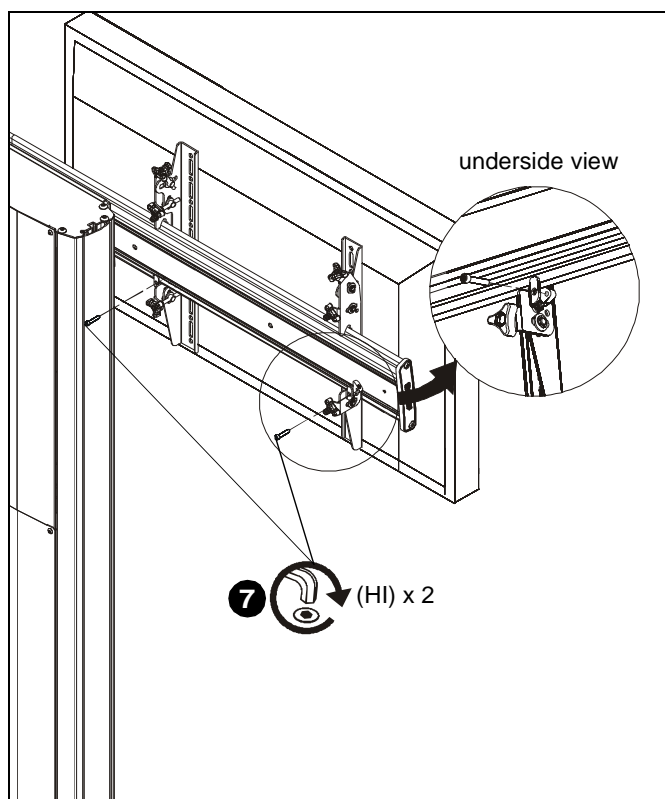

Figure 8
6. Hang interface brackets (A and B) to display rails. (See Figure 8)
7. Use 1/4-20 x 1 1/4" socket head cap screws (HI) to secure interface brackets (A and B) to rails for each display. Screws must engage through both holes to be fully secured. (See Figure 8)